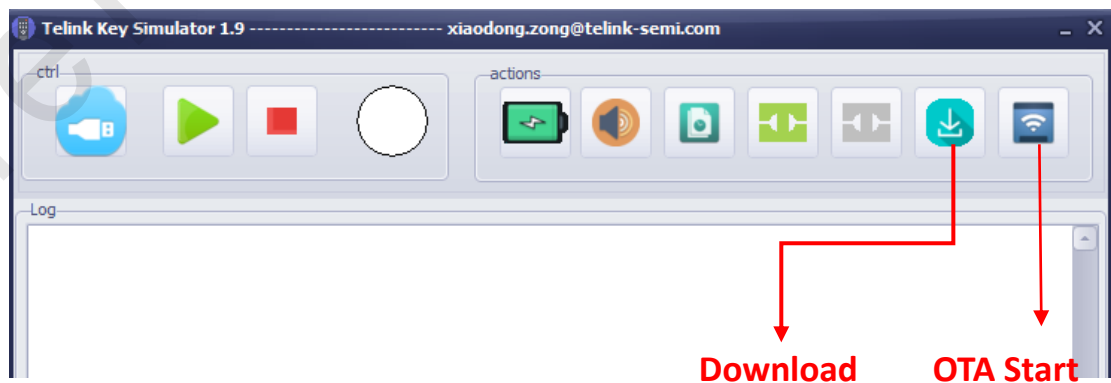

Figure 4 Open new firmware
3. Click the “OTA Start” button  on the “KeySimTool” interface (as shown in Figure 4), the green light of the dongle (as shown in Figure 2) will be turned on to indicate the dongle is in OTA mode.